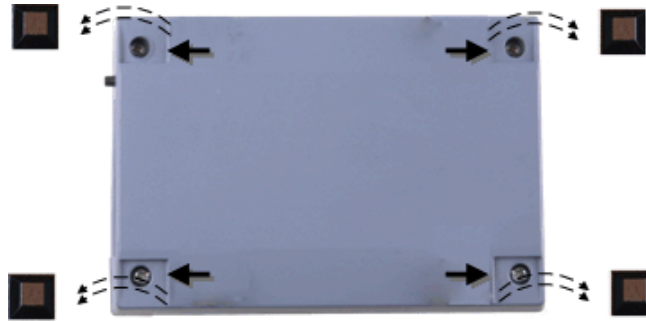

Figure 7. Location of screws connecting bottom and top sections of case
3. Remove the four screws shown in Figure 7 from the bottom of the device.